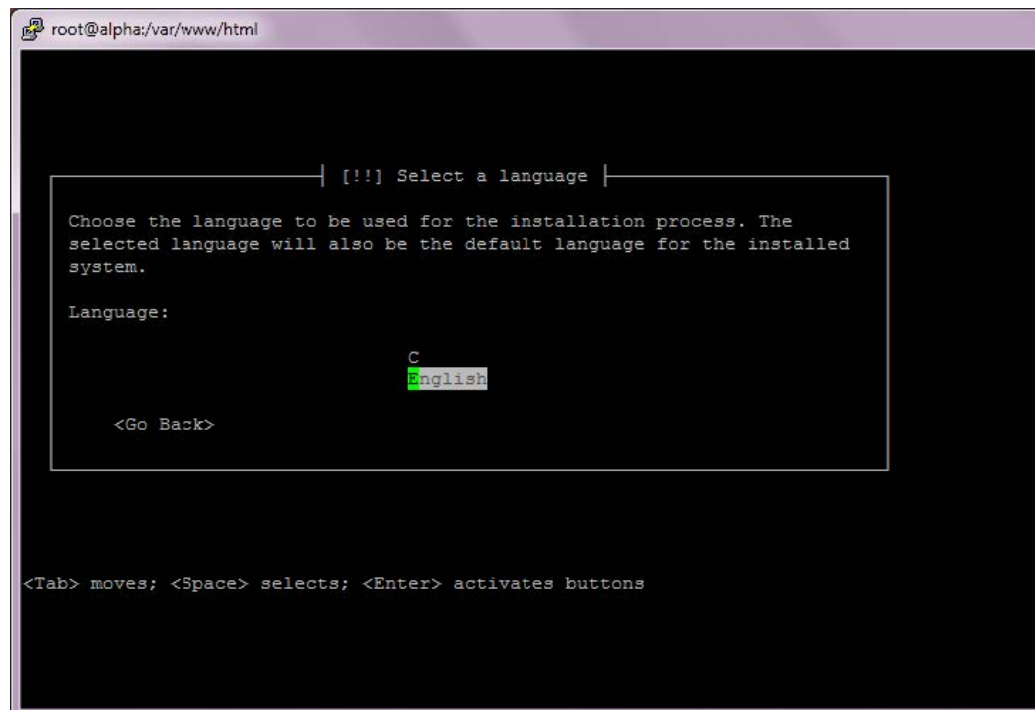

Figure 6.11 Linux installation screen
4. In the terminal emulator window, the first screen of the Linux installer appears as shown in Figure 6.11 on page 73. Continue through the screens, following the online instructions to complete the operating system installation.